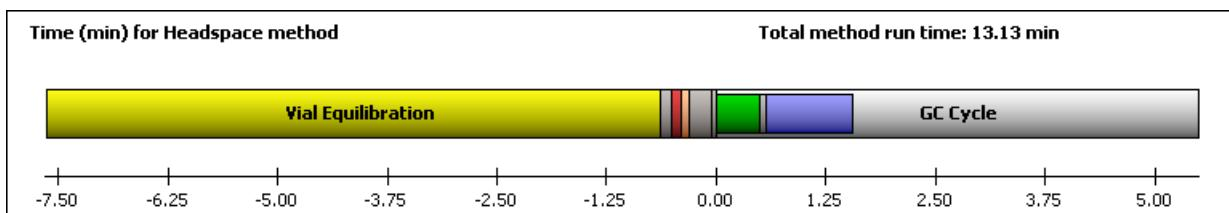

Figure 21 The method time line
Select **Show method time line** to display the method editor time line (as shown in Figure 21).
- 10 View the time line at the top of each **Method Editor** panel for a graphical display of HS method parameters and GC cycle times for a single vial (Figure 21).